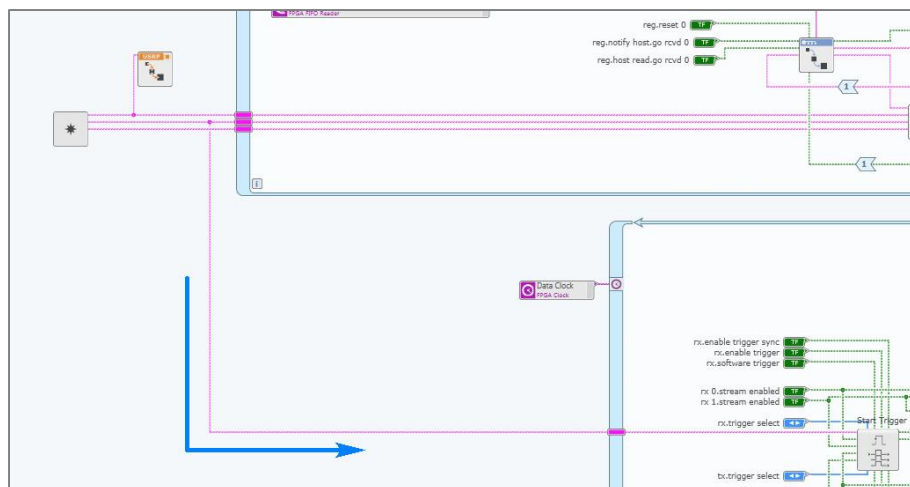

Figure 58: Rewire Cluster Wire to Start Trigger
- a. Rewire the “sync.resources” cluster wire from the “Create Resources.gvi” to the “Start Trigger.gcdl” as shown in Figure 58.